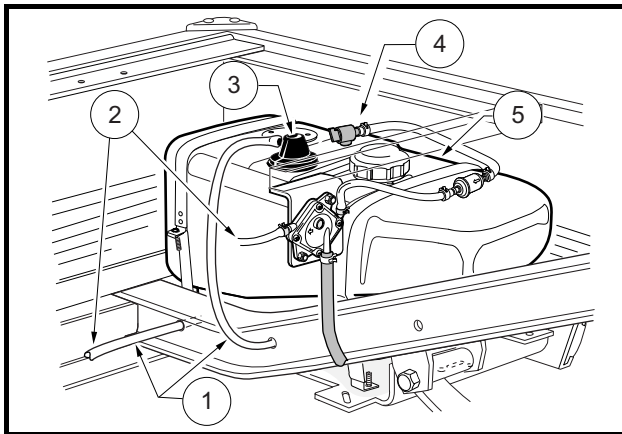

Figure 24 Fuel Tank – Turf 272/Carryall 272/XRT 1200
- If the vehicle has an all-weather enclosure installed, be sure the fuel tank is properly vented as shown (Figure 24, Page 34).